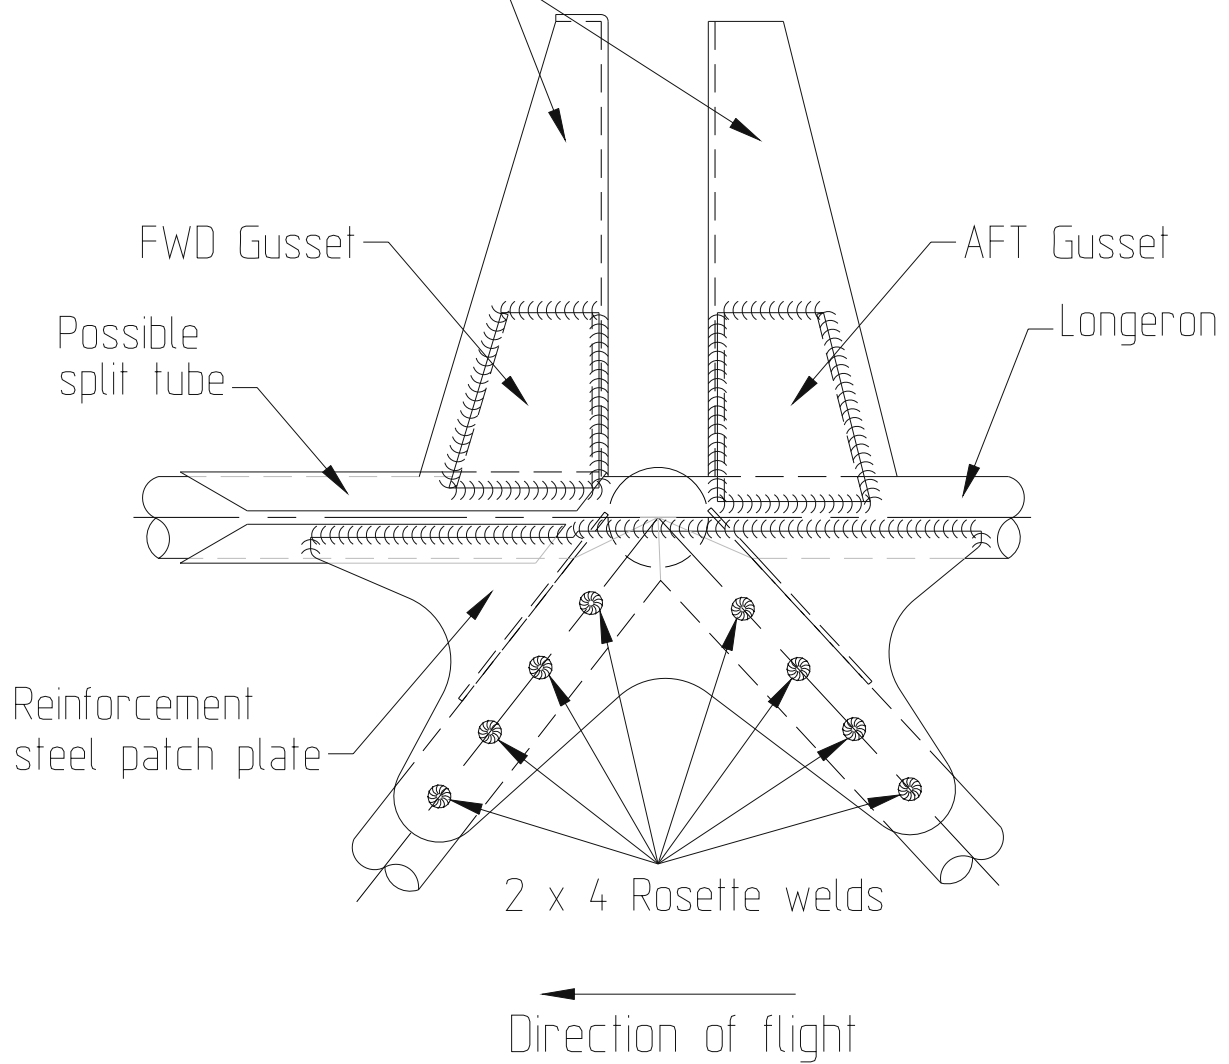

Figure 3: Typical installation of reinforcements in area around horizontal stabilizer main spar attachment brackets (view on left side).
- Prepare parts according applicable kit (see material allowance) and Figure 3 for welding. When split tubes are installed the contours of the reinforcement steel patch plate and the related gussets have to be adjusted slightly to match their surrounding structure.
- Weld parts in place according Figure 3.